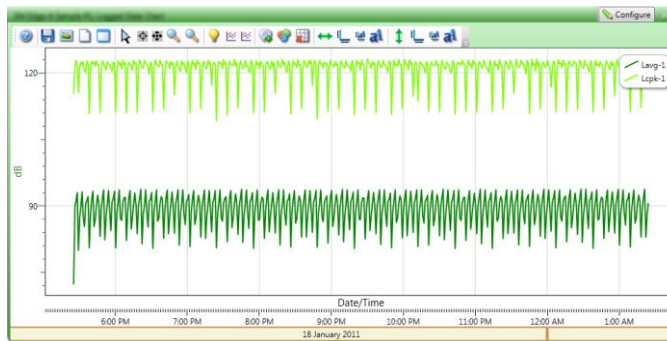

Figure 3-4: Sample time history data (or logged data) chart
2. Plug the USB cable into the computer. (See “A” in Figure 3-4).